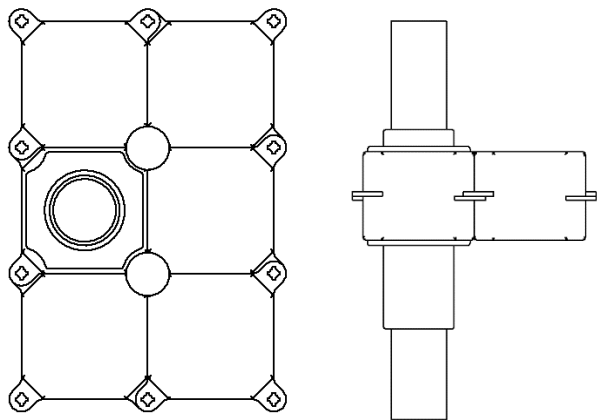

Figure 2
3. Modular Cube Stabilizer can be installed over an existing pile or a new pile can be driven through it. See Figure 2 &3.